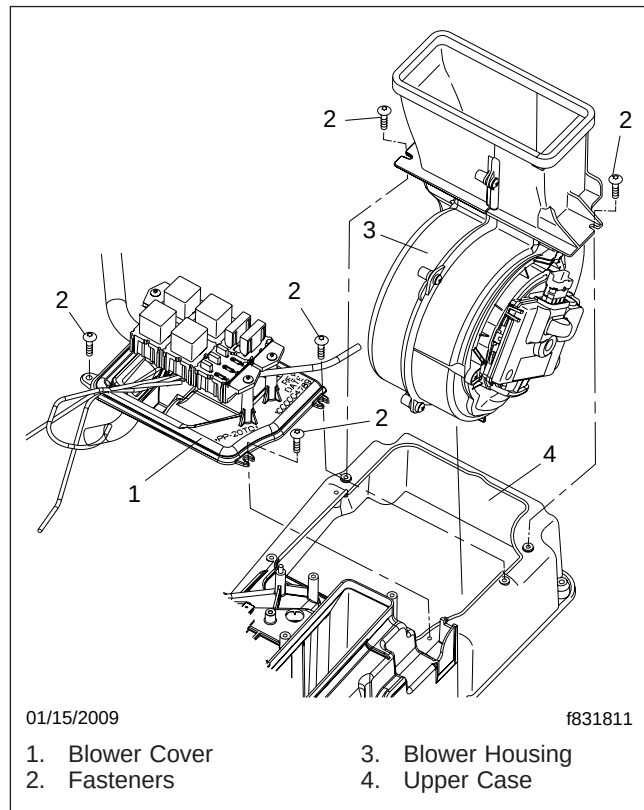

Fig. 6, Blower Housing Removal
16. Remove the blower housing fasteners, then lift the blower assembly up, and unplug the wiring harness connector. See Fig. 6.
11. Remove the unit control module and blower cover as a unit. See Fig. 6.
15. Remove the blower housing fasteners, then lift the blower assembly up, and unplug the wiring harness connector. See Fig. 6.